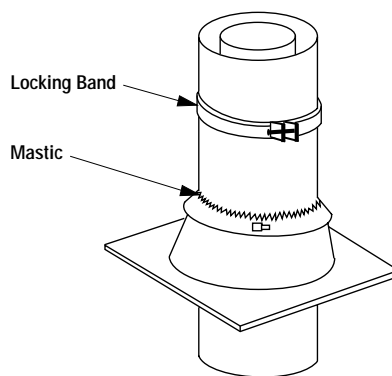

Figure 29
Step 8. The standard FireCraft FTF8 roof flashing assemblies include a storm collar. Slide the storm collar over outer chimney, rest on flashing spacers and align with top surface of flashing. Insert tab in slot, pull tight and bend tab back over slot. Seal storm collar to outer chimney with roof caulking or mastic around entire circumference of pipe. Also add extra roof caulking to the tab/slot area to seal completely against water penetration (Figure 29). Check all joints very carefully to ensure no water intrusion can take place.
Step 9. FireCraft locking bands, Model FLB, may be required if the chimney extends too high above the roof flashing. As a general rule, if the chimney extends more than 6' above the roof flashing, the use of locking bands is advisable to strengthen the chimney assembly. Align the locking band at the chimney joint. Locking bands wrap around pipe joints equally covering the joints of both pipe sections. Use the nut provided and TIGHTEN snugly. Do not over-tighten as this might damage the chimney section (refer to Figure 29).